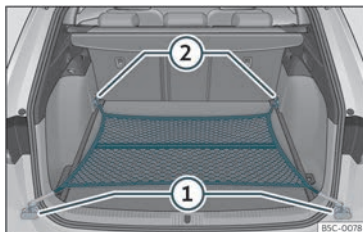

Fig. 125 In the luggage compartment: net bag hooked up at floor level.
- Secure the net hooks to the fastening rings ① and ②»» **Fig. 125** »» ⚠. The bag zip should be facing upwards.